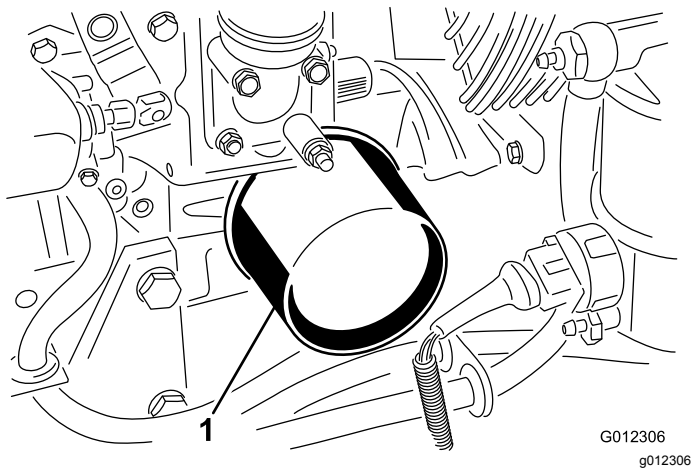

Figure 39
3. Remove the oil filter (Figure 39).